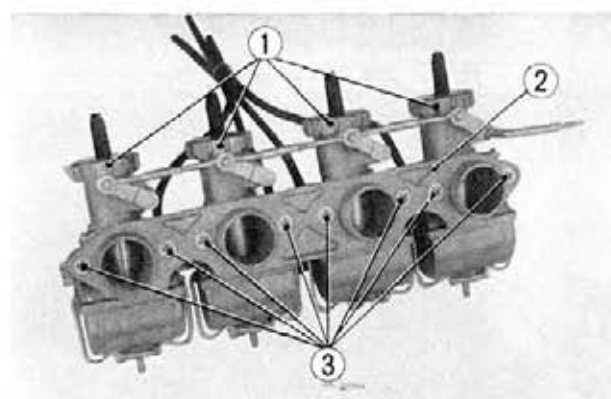

Fig. 6-4 ① Carburetor ③ Setting screws
4. Unscrew the two 6 mm screws and dismount the respective carburetor from the stay plate. (Fig. 6-4)